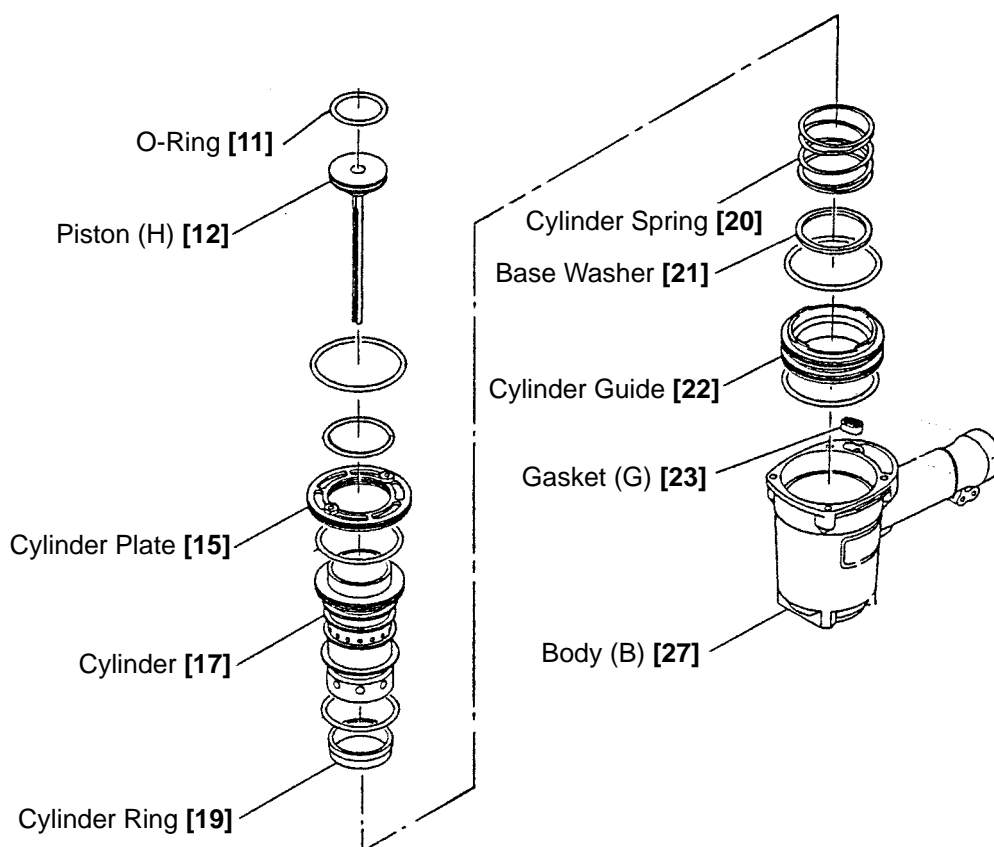

Fig. 10
(a) Disassembly (See Figs. 10, 11 and 12.)
- Gripping these two bolts, simultaneously turn and pull upward to remove the Cylinder Plate [15]. When this has been accomplished, the Cylinder [17] and other parts which make up the output section can be removed, as illustrated in Fig. 10.